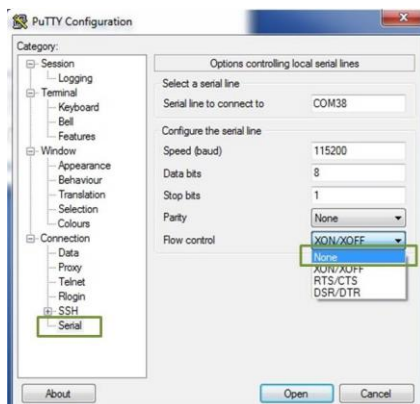

Figure 7: PuTTY Configuration - 1
2. Under "SSH", select "Serial". Under "Flow control" pull-down menu, select "None" (refer to Figure 7).